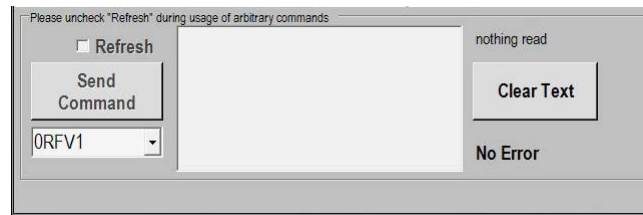

Fig.1: Command section of the User Interface
- Make sure the Refresh Box is unchecked (as in Fig. 1).